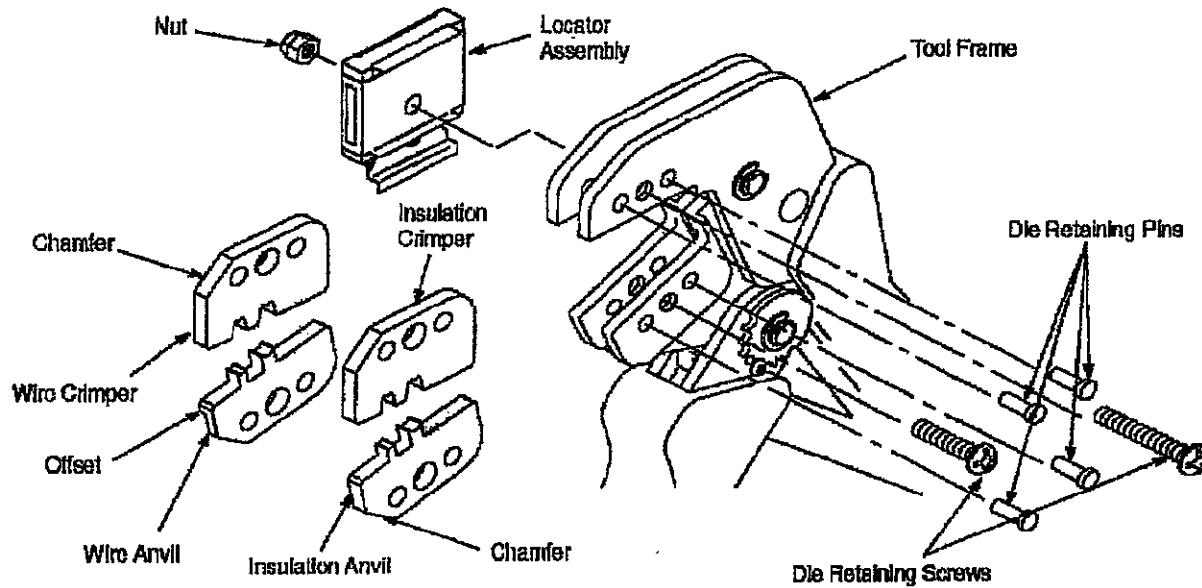

Figure 2
**3. INSTALLATION AND REMOVAL OF DIE SET AND LOCATOR ASSEMBLY (Figure 2).**